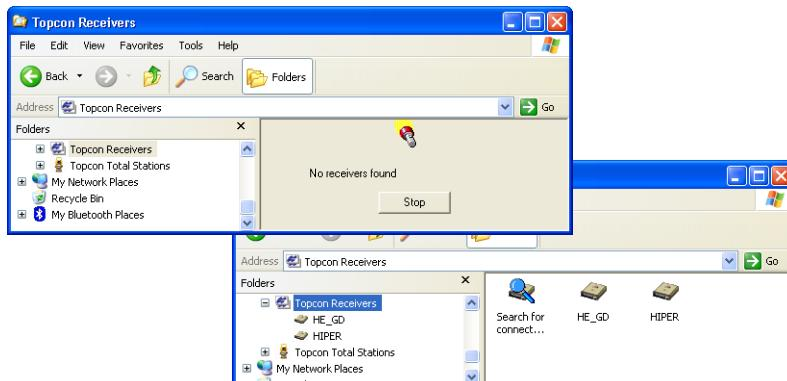

Figure 2-2. Searching and Finding Topcon Receivers in Windows Explorer
1. Open Windows Explorer and click the Topcon Receiver folder. The right panel of the window displays the automatic start of searching for Topcon receivers connected to any of the computer ports (COM and USB) (Figure 2-2).
2. When finished, all receivers connected to the computer ports (Figure 2-2) display.